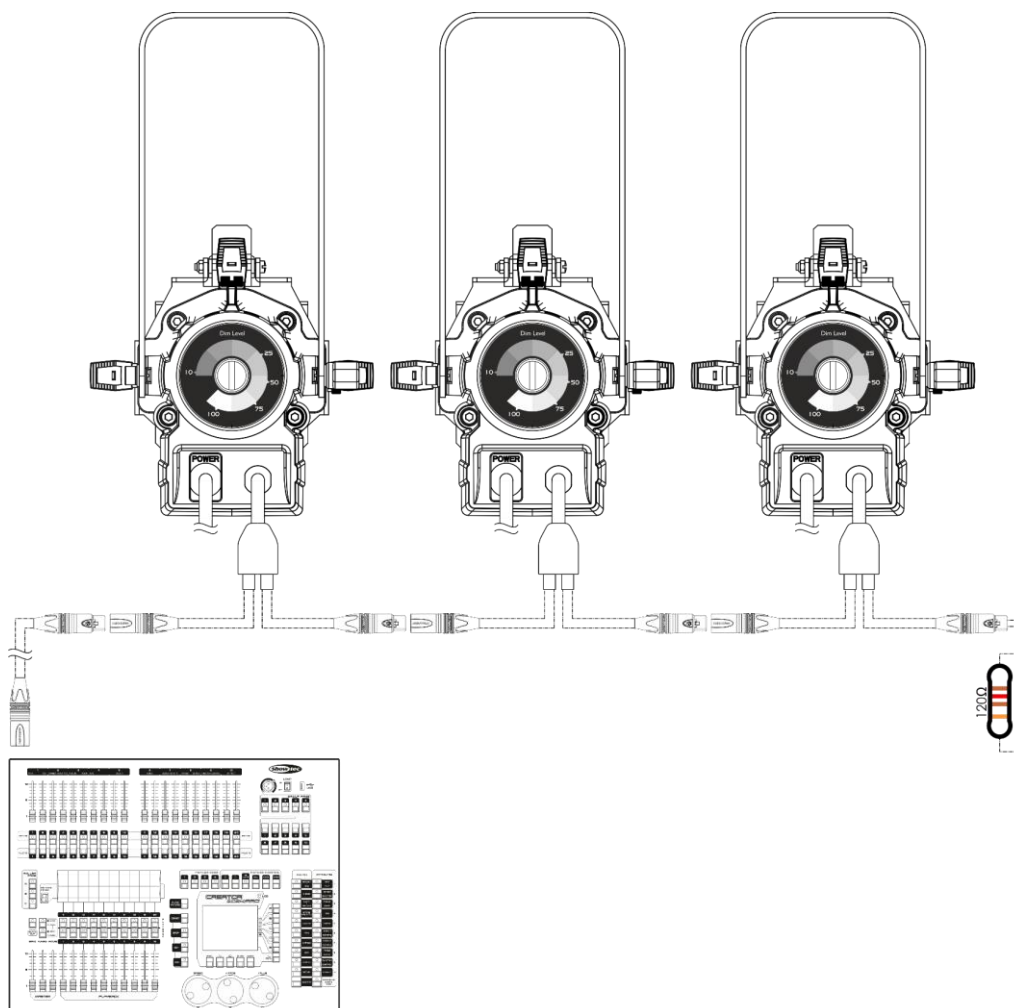

Fig. 09
- 04) Link the units as shown in fig. 09. Connect the first unit's DMX "out" socket with the second unit's "in" socket, using a DMX signal cable. Repeat this process to link the second, third and fourth units.